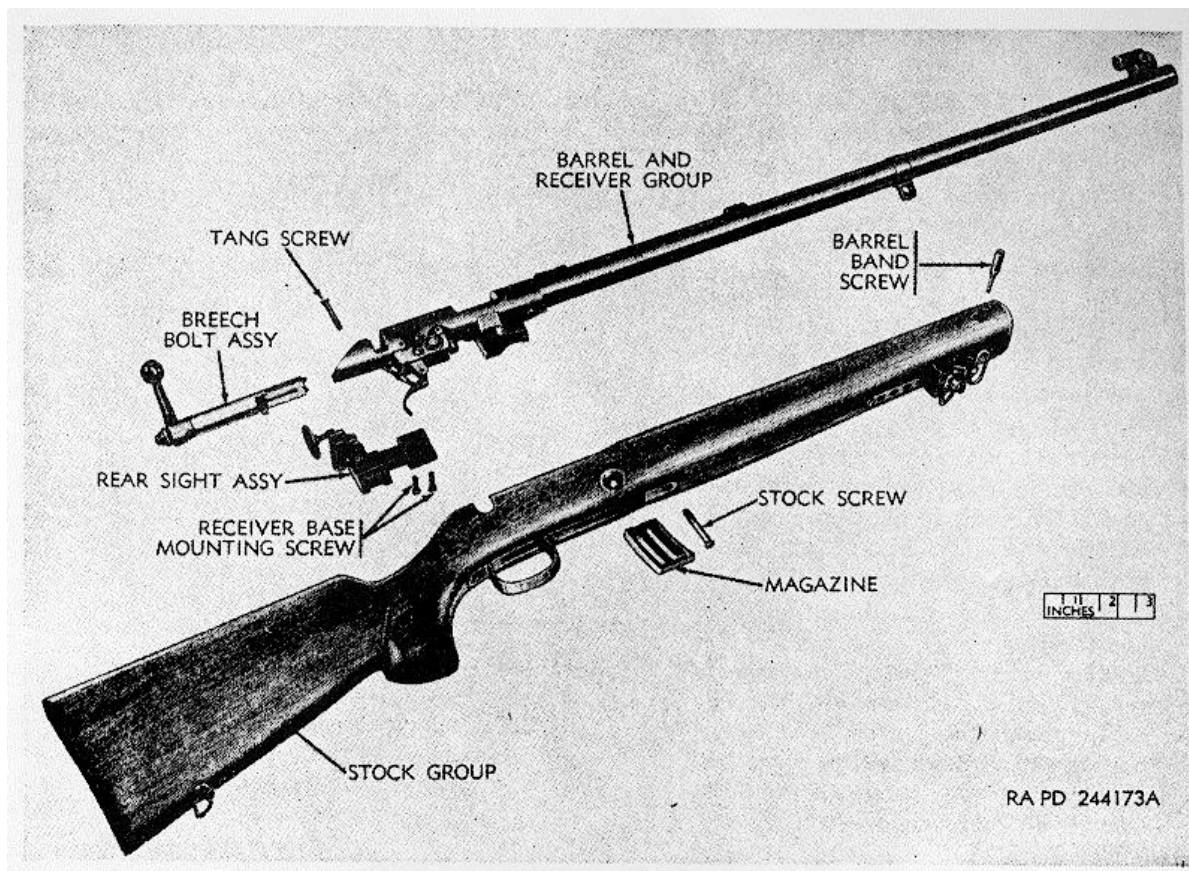

Figure 49. Cal.22 rifle (Winchester M52 heavy barrel) -field stripped.
- (1) Insert magazine release plunger with its larger diameter to the left through the opening in the middle of the stock and push the plunger all the way to the right.
- (2) Place the barrel and receiver group in its opening in the stock with its holes in the rear and front of the receiver and the hole in the barrel band aligned with those in the stock.
- (3) Insert tang screw (fig. 49) through the rear hole of the receiver and into the stock and tighten the screw.
- (4) Insert the barrel band screw through the stock and barrel band and tighten it.
- (5) Insert stock screw from the bottom of the stock and through the front trigger guard hole and the stock and into the threaded hole in the front of the receiver. Tighten the screw.
- (6) Place the receiver extension rear sight assembly (fig. 49) on the left rear side of the receiver with the concave side of the rear sight receiver base to the right and the rear sight disk to the rear. Align holes in receiver base and receiver mount and secure with two base mounting screws.
- (7) Install the sling M1907 7141245.
- (8) Hold convex side of magazine to the rear and magazine base down and slide the
- (1) Place the barrel and receiver group in its seat in the top of the stock (fig. 49). Install trigger guide plate over trigger opening in stock. Align the three trigger guard holes in the stock and receiver (fig. 70). Also align the holes in the top of the stock for the trigger housing assembly and the barrel bracket to receive these two projecting components.